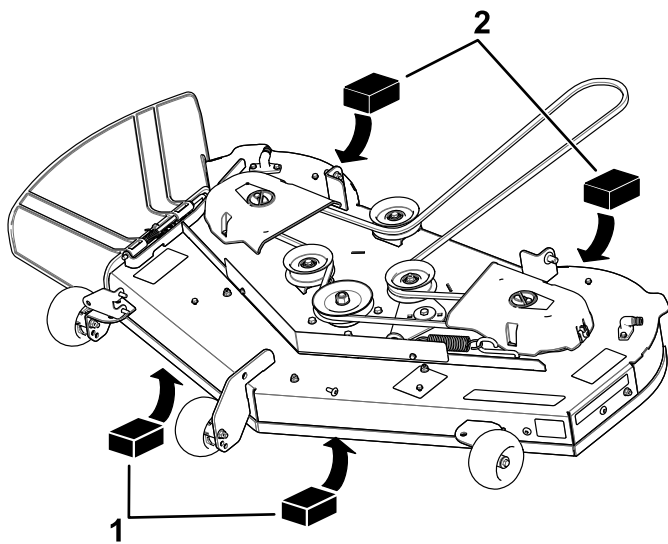

Figure 67
4. Place 2 blocks, each having a thickness of 6.6 cm (2-5/8 inches), under each side of the front edge of the deck but not under the anti-scalp roller brackets (Figure 66 or Figure 67).
5. Place 2 blocks, each having a thickness of 7.3 cm (2-7/8 inches), under the rear edge of the cutting deck skirt, 1 on each side of the cutting deck (Figure 66 or Figure 67).